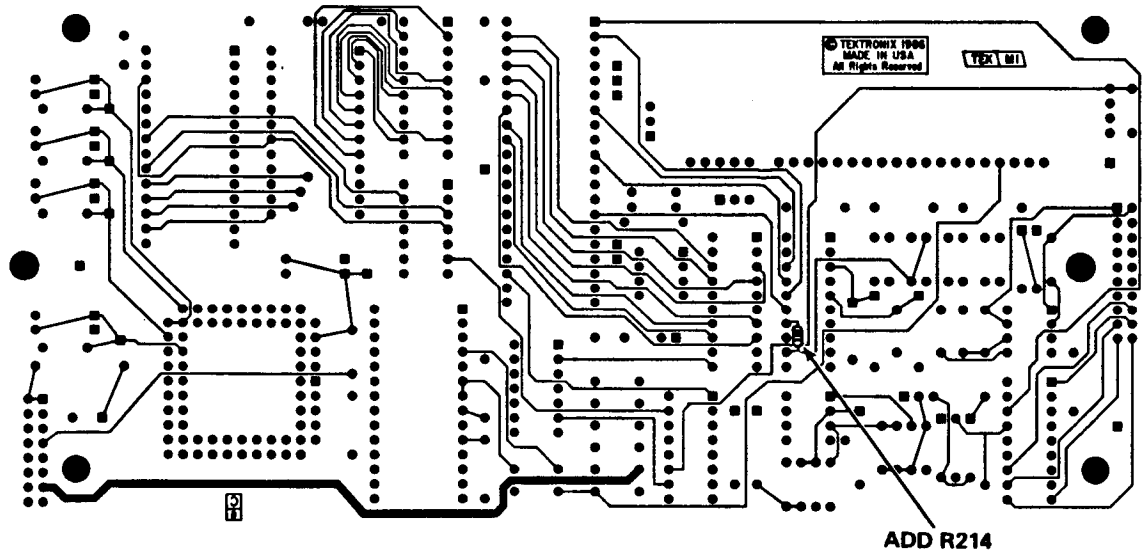

Figure 2. - Backside (solder) side of the Kernel ckt bd.
- () 5. Position the Kernel circuit board with the back (solder) side facing up. Solder one lead of R214, 20k Ω , resistor to the circuit board pad common to U310, pin 12. Solder the remaining lead of R214 to the circuit board pad common to U310, pin 14. Refer to Figure 2, for R214, new location.